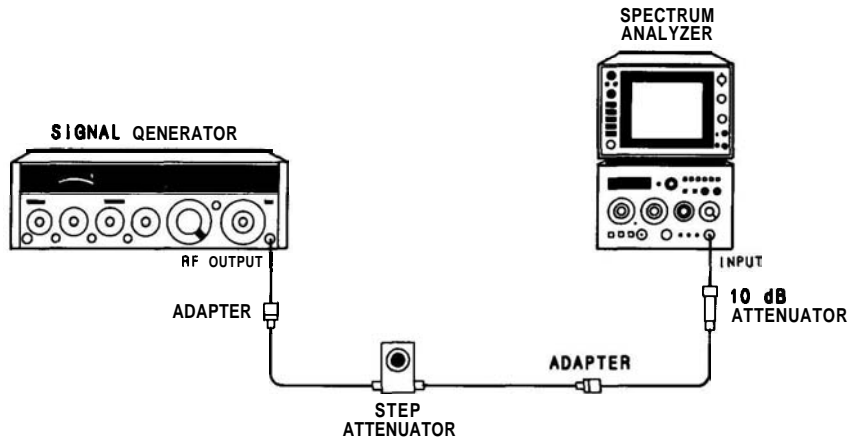

FIGURE 4-17. INPUT ATTENUATOR ACCURACY TEST SETUP
- 1. Connect equipment as shown in Figure 4-17 and set controls as follows: